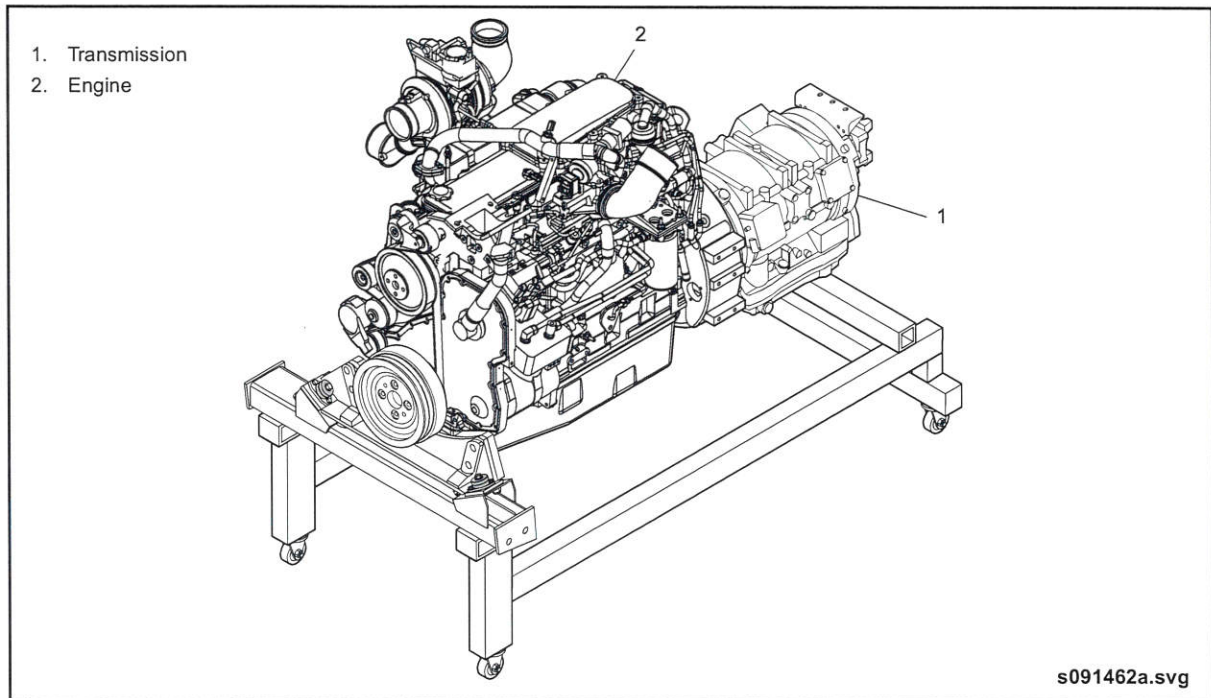

Fig. 4-5: Engine Support Dolly
31. Raise vehicle sufficiently to allow engine dolly to slide into position. See "Fig. 4-5: Engine Support Dolly" on page 7.